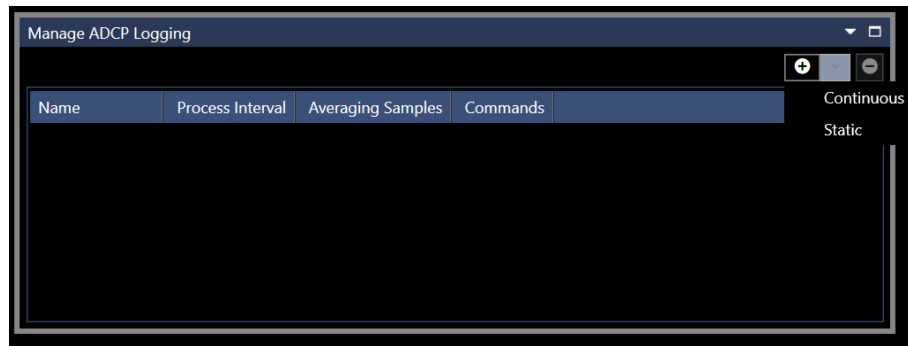
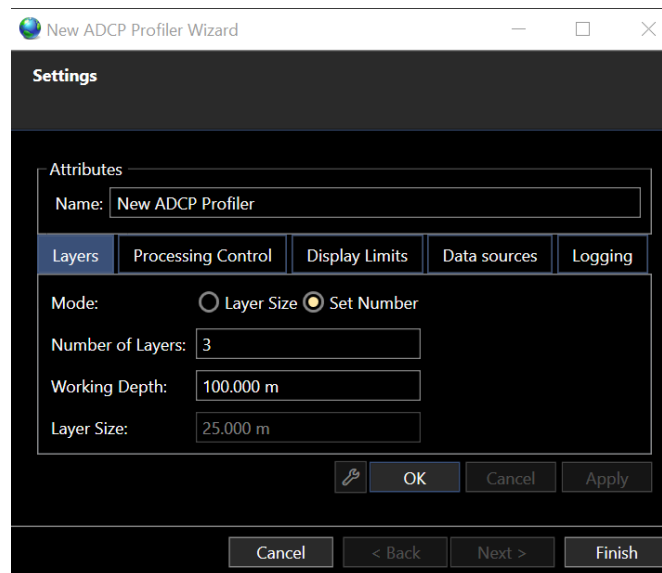

FIGURE 18-13 MANAGE CONTINUOUS WINDOW
FIGURE 18-14 NEW ADCP PROFILE WIZARD - SETTINGS
There are two possible types of current profiles which can be added, Continuous or Static (see Figure 18-13).
To add a continuous profile to the list, select the **Continuous** option from the drop-down list of options (see Figure 18-13). This opens New ADCP Profiler Wizard window where all settings for the profile can be configured, as shown in Figure 18-14.
- **Layers Tab** (see Figure 18-14)